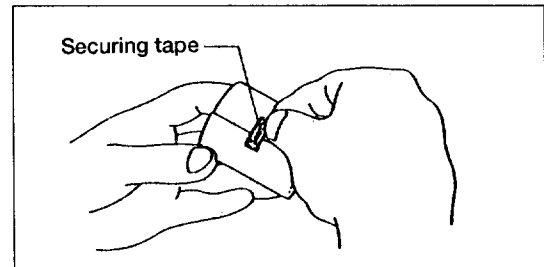

Figure 18
- (2) Remove the securing tape from the new paper (see Figure 18).